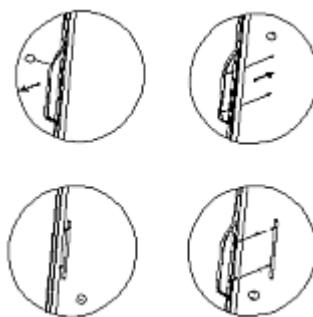

Fig. 2
1. By rotating the temperature controller (15, Fig. 2) inside the appliance, set the selected temperature to one of available values in the range of 1–6.
1. If necessary, switch the LED interior lighting on by setting the ON/OFF switch (14, Fig. 2) inside the appliance to '**I**' (**ON**) position.